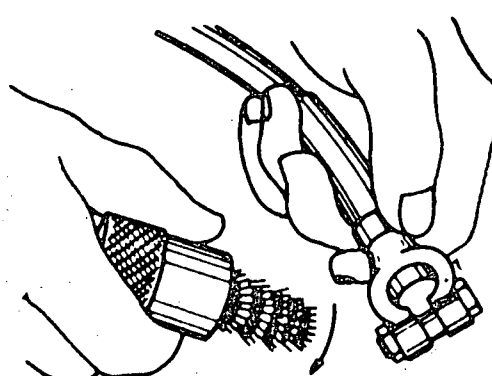

Fig. 3
- b) Wash the terminals with water and sodium bicarbonate, brush them (fig. 3), and, if necessary, file them down.